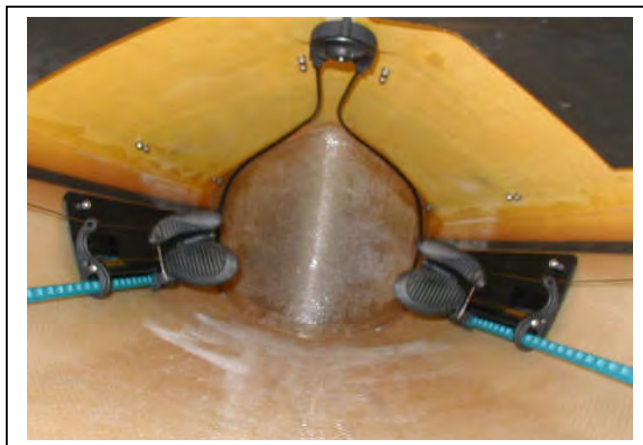

Fig. 1 – View inside kayak with Trim Tab installed.
b. You now need to determine the length of Cable Tubing that will need to travel between the Trim Tab and the lower cable hole on the front end cap of the Foot Controls. The easiest method for this is to use the actual Cable Tubing for this measurement. Holding the end of the Tubing at the Cable Adjustment Bolts on the Trim Tab, push enough Cable Tubing forward to form a "J" shaped loop that reconnects at the front end cap of the Foot Controls. Ideally, this loop should lay against the deck of the kayak, drop down along the front bulkhead, and loop back to the front end cap of the Foot Controls. (Fig.1) If your Trim Tab is not centered on the deck of the kayak, make sure to take two separate right and left measurements between the Trim Tab Cable Adjustment Bolts and the front end cap of the Foot Control. Carefully cut the Cable Tubing to the two desired lengths. We recommend using a sharp razor knife, as scissors tend to crimp the Tube.
f. If desired, install the Cable Clips at an appropriate location along the Cable Tubing to secure it in place. Note: The Cable Tubing is usually stiff enough to remain in looped against the deck and bulkhead without the aid of Cable Clips. (Fig. 1)